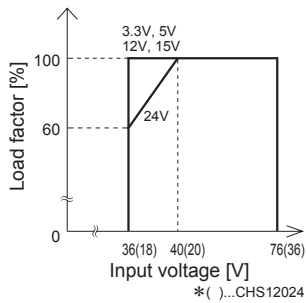

Fig.9.1 Input voltage derating curve
■CHS120 has derating by input voltage is required. shown Fig.9.1.